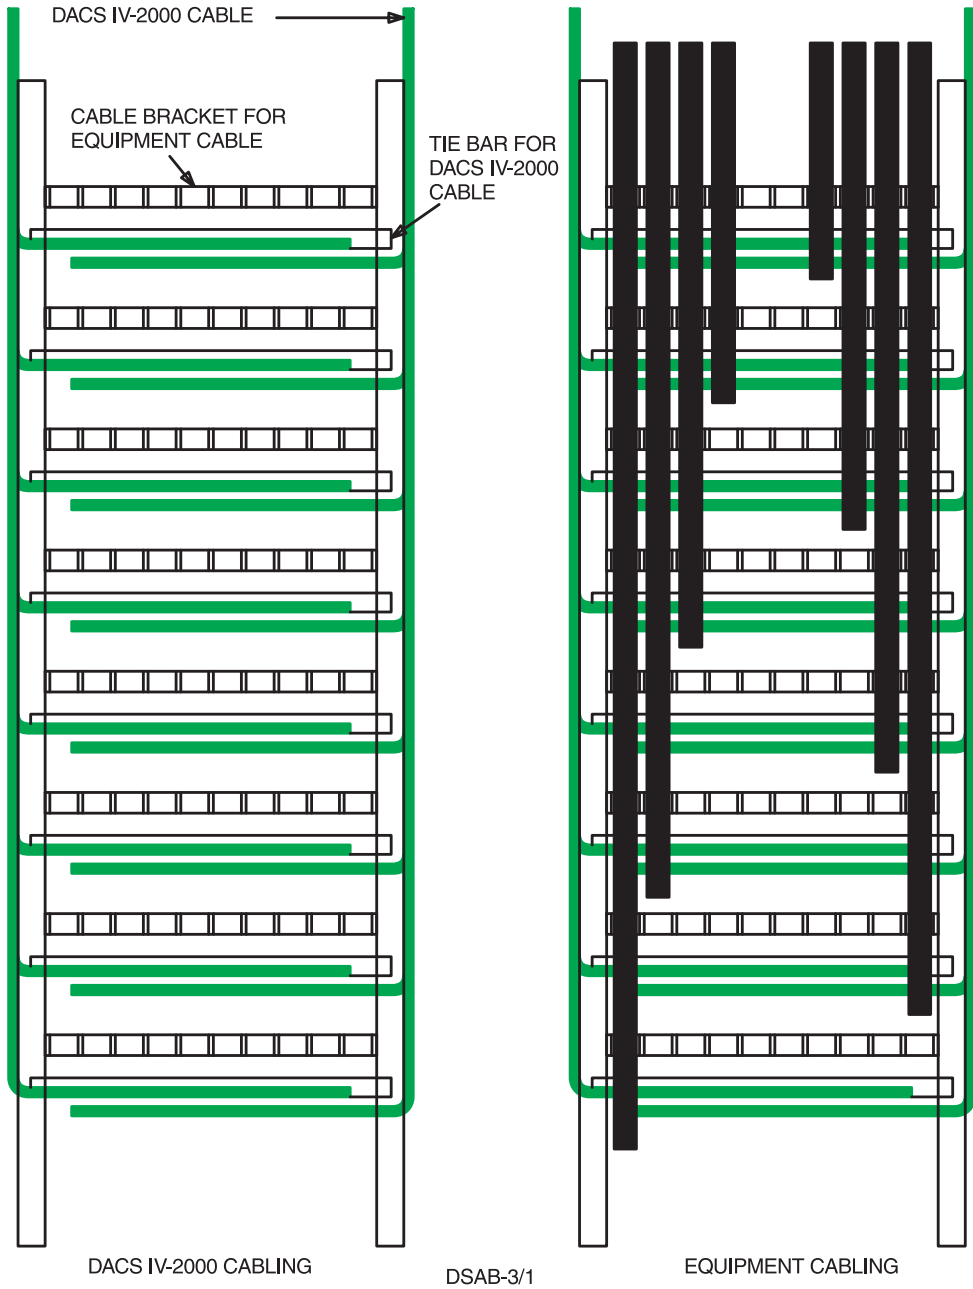
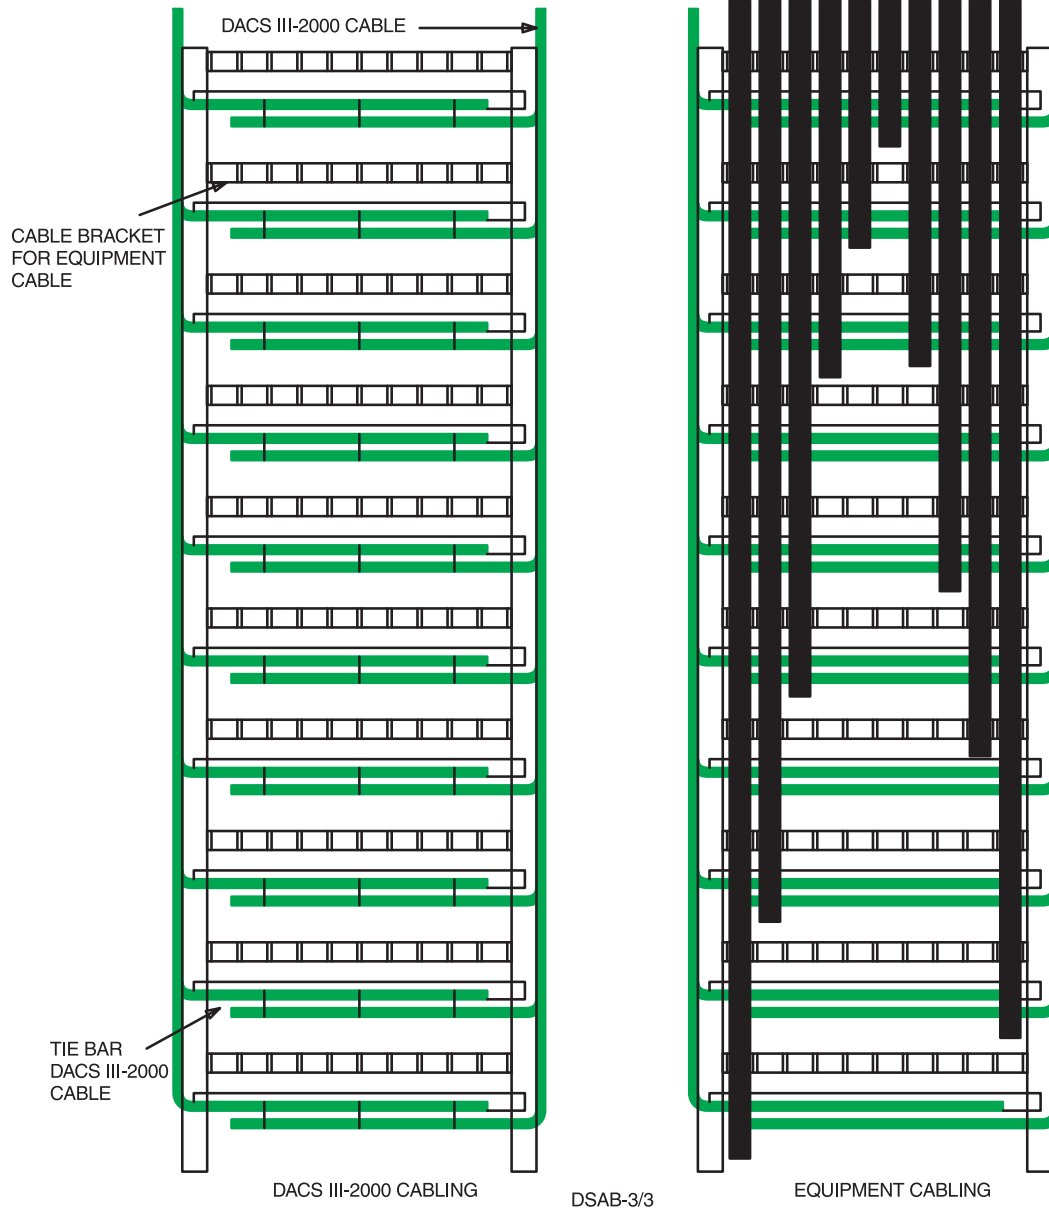

Figure 7. DSAB3/1 DACS and Equipment Cabling
Figure 8. DSAB3/3 DACS and Equipment Cabling
7. Route the equipment cables into the proper slots of the cable retaining brackets. For overhead cabling, the lowest shelf installed should have the longest cable routed in the outermost slot on the left side of the frame as viewed from the rear. The next lowest shelf installed should have the next longest cable routed in the outermost slot on the right side of the frame as viewed from the rear. The third lowest shelf cables are routed on the left side in the slot next to the outermost slot. The fourth shelf cables are routed on the right side in the slot next to the outermost slot on the right. Continue this pattern for the remaining shelves to be installed. This will leave the shortest cables in the center providing the most access to all shelves. Refer to Figure 7 on page 12 and Figure 8 on page 13.